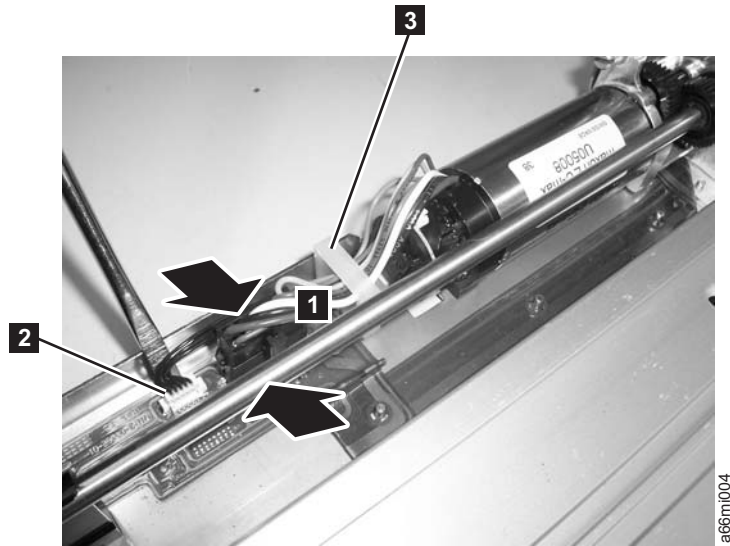

Figure 8-62. Y motor connector
5. See Figure 8-62 on page 8-65. Remove the large black connector.
- a. Pinch the latch (**1** in Figure 8-62 on page 8-65) on the cable connector.
6. Use a small flat blade screw driver to pry up the small white connector (**2** in Figure 8-62) gently working the screw driver blade along the entire outside edge of the connector.